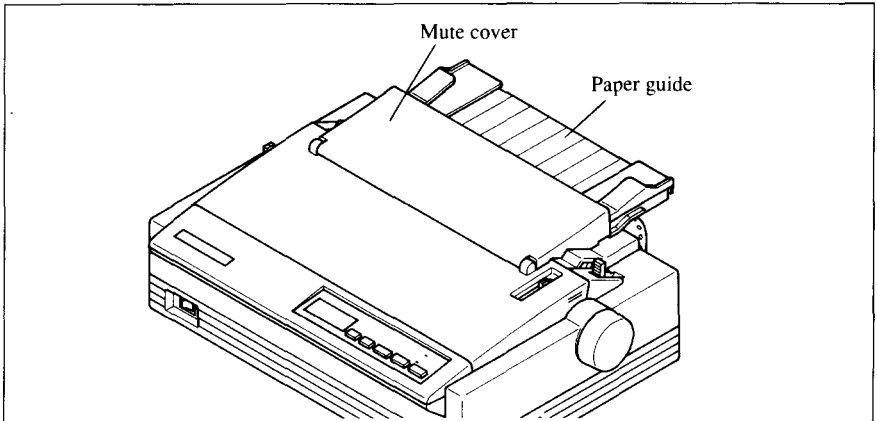

Figure 3-8. Close the rear cover and the mute cover, then set the paper guide horizontally.
- Close the rear cover and the mute cover, then set the paper guide in the horizontal position, as shown in Figure 3-8. This will separate the printed from the unprinted paper.